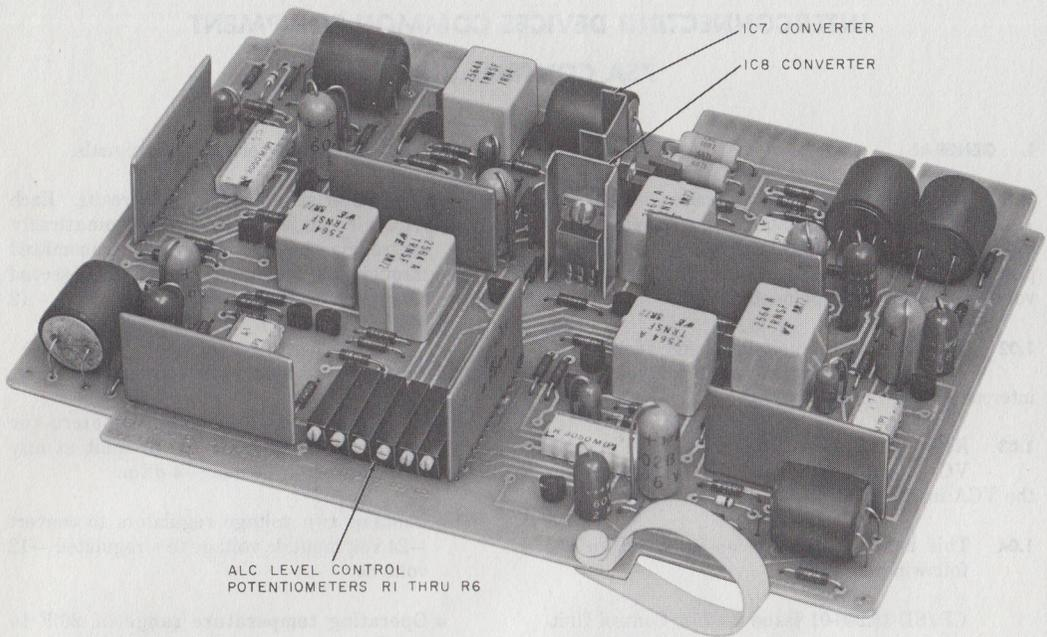

Fig. 1—75A Control Unit
- Unit, Control, 75A (one per six lines, Fig. 1)